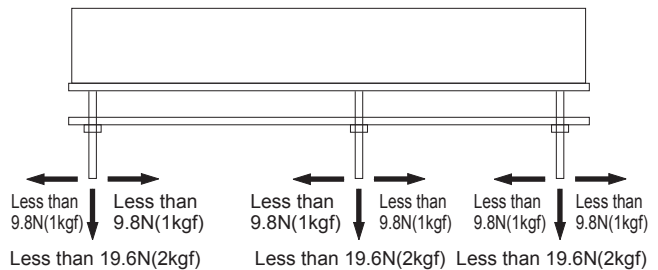

Fig.8.1 Stress on to the pins
- When too much stress is applied on the input/output pins of the unit, the internal connection may be weakened. As below Fig.8.1, avoid applying stress of more than 9.8N (1kgf) on the pins horizontally and more than 19.6N (2kgf) vertically.